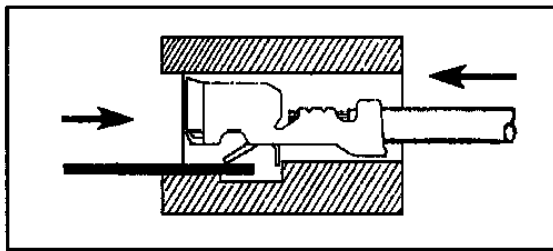

Figure 58 Insert Pick Straight into Entry Canal
3. Insert pick straight into entry canal at front of connector (Figure 58).